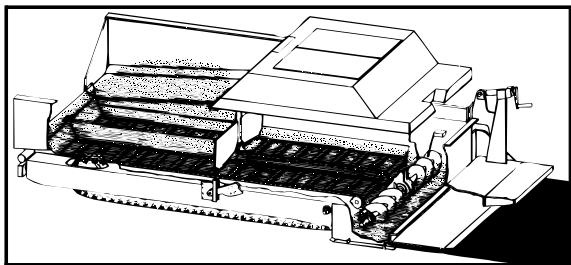

Figure 63. Shaded areas to be sprayed down daily
- 6) Start cleaning at the truck hook/push rollers and work your way to the rear of the machine cleaning the hopper wings, slat conveyors, hopper gates, augers, screed bottom, end gates, strike-offs, etc. (Figure 63)